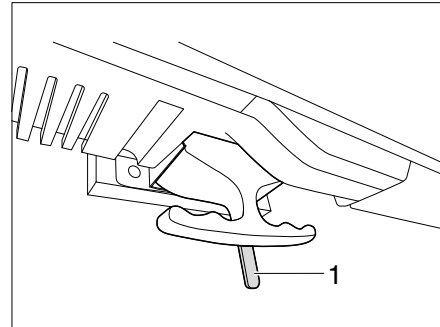

Fig. 142 Flat screen unlocking
- Push the lever (Fig. 142,1) to the left. The lock is released.
- Push the lever (Fig. 142,1) to the middle position. The flat screen is locked.